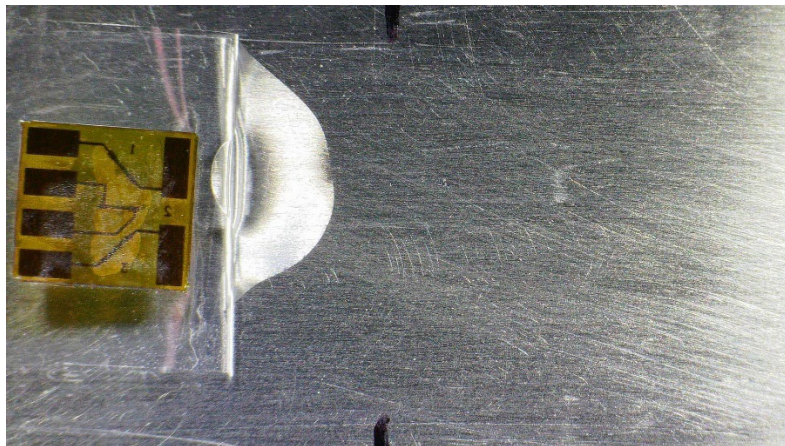

Figure B3 – Application of drop of adhesive.
- B.12 Take the container of cyanoacrylate and place a single drop of adhesive at the intersection between the tape and the structure. The drop will spread across the intersection. It should cover approximately the width of the rosette. See Figure B3.